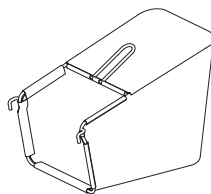

Fig. 6
1. Attach the grass bag to the frame by fixing all plastic hooks. (Fig. 6)